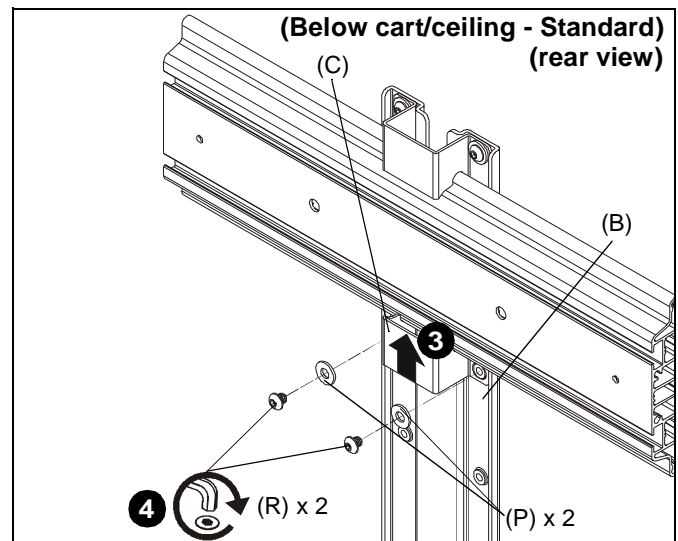

Figure 10
- Slide second support bracket (C) underneath cart/ceiling mount head assembly, lining up holes on support bracket (C) to holes on main bracket (B). (See Figure 10)
- Use two 1/4-20 x 1/4" button head cap screws (R) and two large washers (P) to secure support bracket (C) to main bracket (B). (See Figure 10)